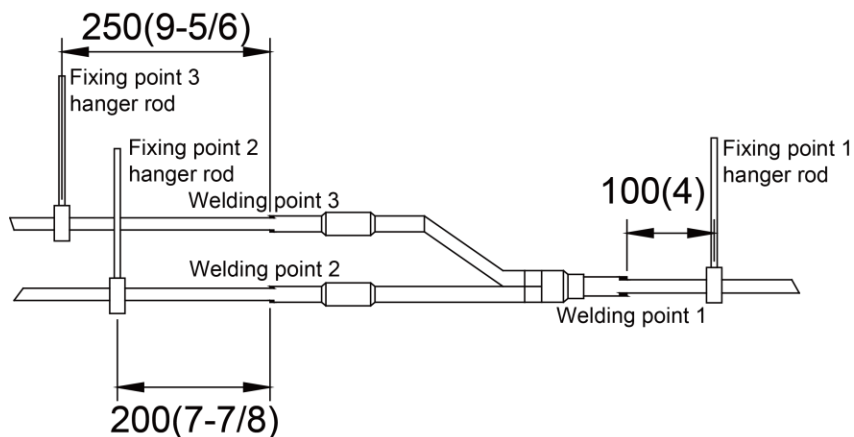

Fig.4.3.6
(3) There must be three fixing point for both horizontal and vertical installation of the Y-type manifold. See Fig.4.3.6.